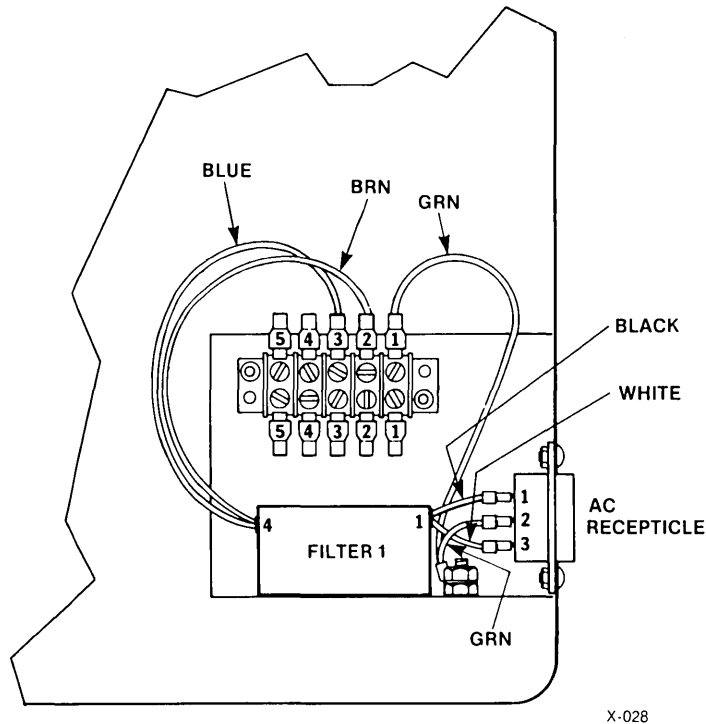

Figure 4-14. Filter 1 Connections
4. Disconnect and label the four leads to filter 1 (see Figure 4-14).